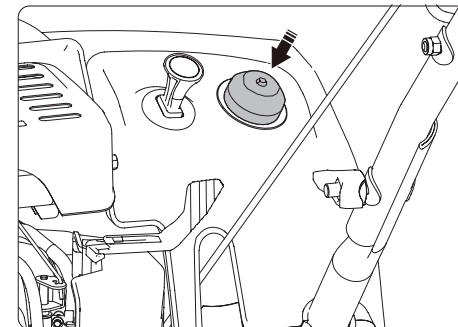

Fig 9
5. Firmly push in the primer 3 times with your thumb, holding the primer in for a second before releasing it each time. (Fig 9)